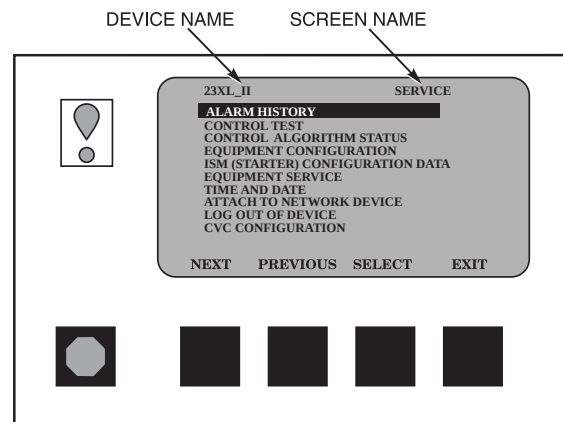

Fig. 18 — CVC Service Screen
- If a screen other than the default screen is displayed on the CVC, the name of that screen is in the upper right corner (Fig. 18).